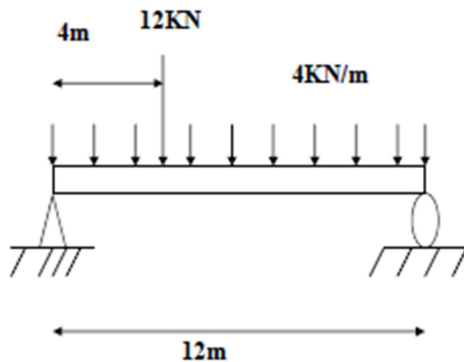

Fig :1
- Calculate the reactions at A, B. Draw shear force and bending moment diagrams. Find location of zero shear force. Find the maximum moment for beam shown in fig 1 (12 marks)